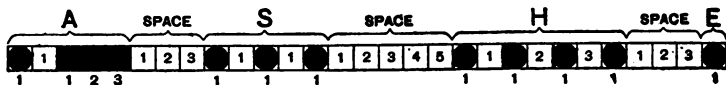

FIG. 45.—SPACE BETWEEN TWO WORDS.
In learning to send remember that (1) a *dash* is equal to three dots; (2) the *space* between parts of the same letter is equal to one dot, as shown in Fig. 43; (3) the *space* between two letters is equal to three dots as shown in Fig. 44, and (4) the *space* between two words is equal to five dots as shown in Fig. 45.